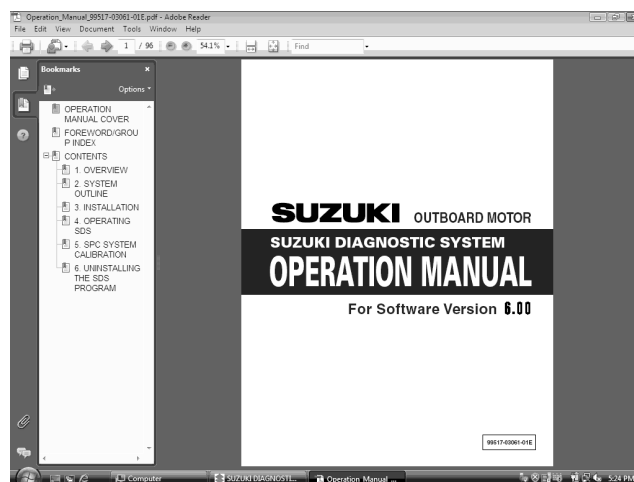

Fig.78
3. Applicable application start up to display the operation manual. (Fig.78)